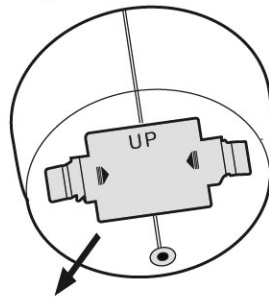

Figure.5
- Press the "key" on the battery compartment in the direction of the arrow, pull out the battery compartment cover (Figure.5).